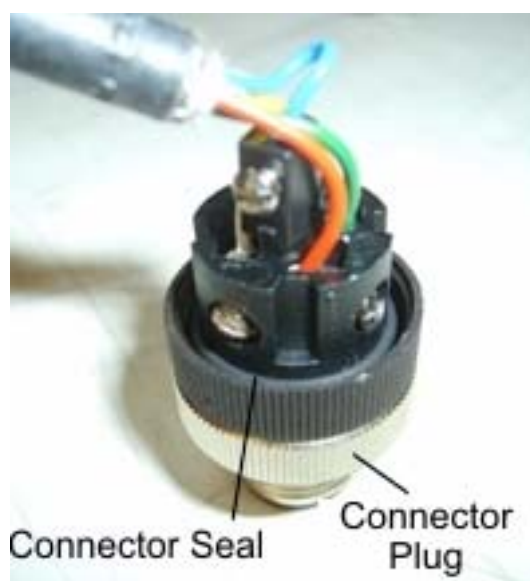

Fig 2 Wire Side
- Spray the wire side (as shown in Fig 2) of the plug with electrical contact spray, ensuring all wires and connectors are well coated with spray.
- Check that Connector seal is present and seated correctly. This is the O-ring sitting between the outer and inner housings (shown on Fig 2)